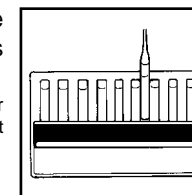

Figure 5
10. Obtain a test result by placing the ampoule between the color standards until the best color match is found. Fig. 5